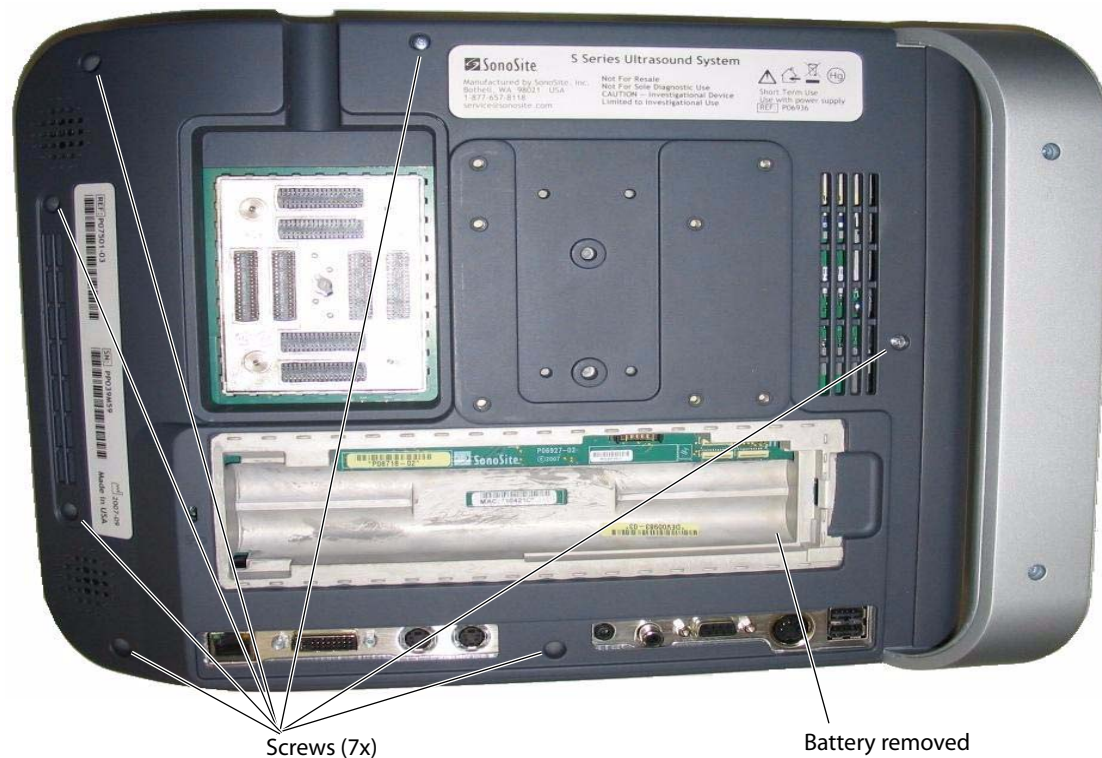

Figure 4.1 Rear Cover Removal
- 2 Remove the seven screws from the Rear Cover as shown in Figure 4.1.